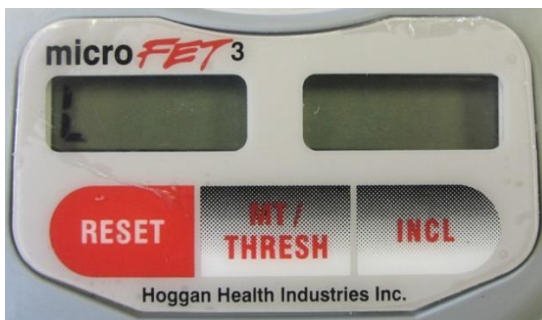

Figure 11. Force Measurement Mode
- The left display window will show unit of measure options: "L" = Lbf., "g" = KGF, "n" = Newtons. The current measurement unit device set in will be displayed, (see Figure 11).